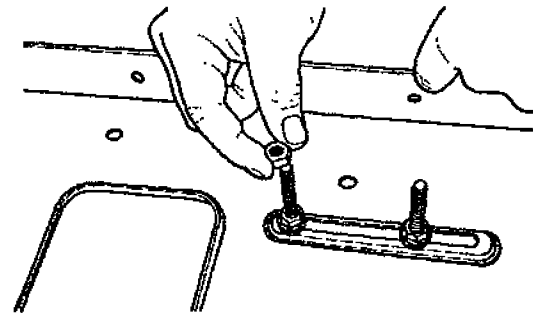

Fig. 5
7. Thread another hex nut onto each screw, as shown in Fig. 5, and allow a 1" gap between nuts.